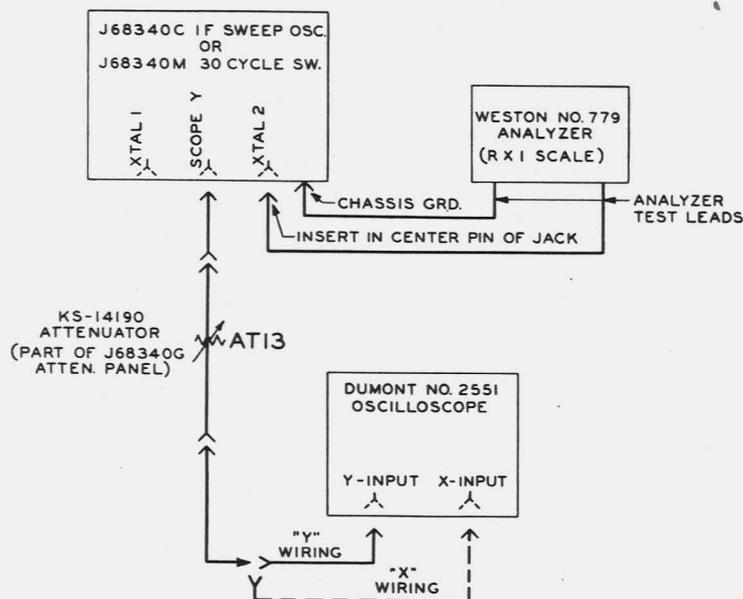

Fig. 16 - Circuit to Check Gain and Low-Frequency Response of Du Mont No. 2551 Oscilloscope
- (1) Set up the circuit of Fig. 16, using "Y" wiring. Operate the oscilloscope with maximum Y-amplifier gain, internal sweep at about a 15 cycle rate, and with the blanking switch off. Set AT13 to 31 db.
(1) Using "X" wiring in Fig. 16, operate the oscilloscope with maximum X-amplifier gain, internal sweep off, and with reduced beam intensity so that the two spots will not discolor the screen. Reduce AT13 to zero loss.